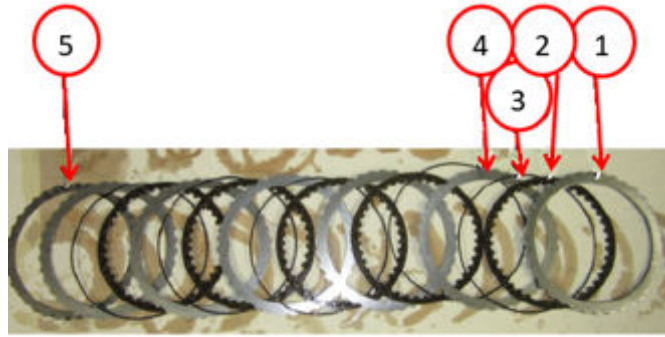

Fig. 33
50. Install the Clutch B discs and plates Fig. 33.